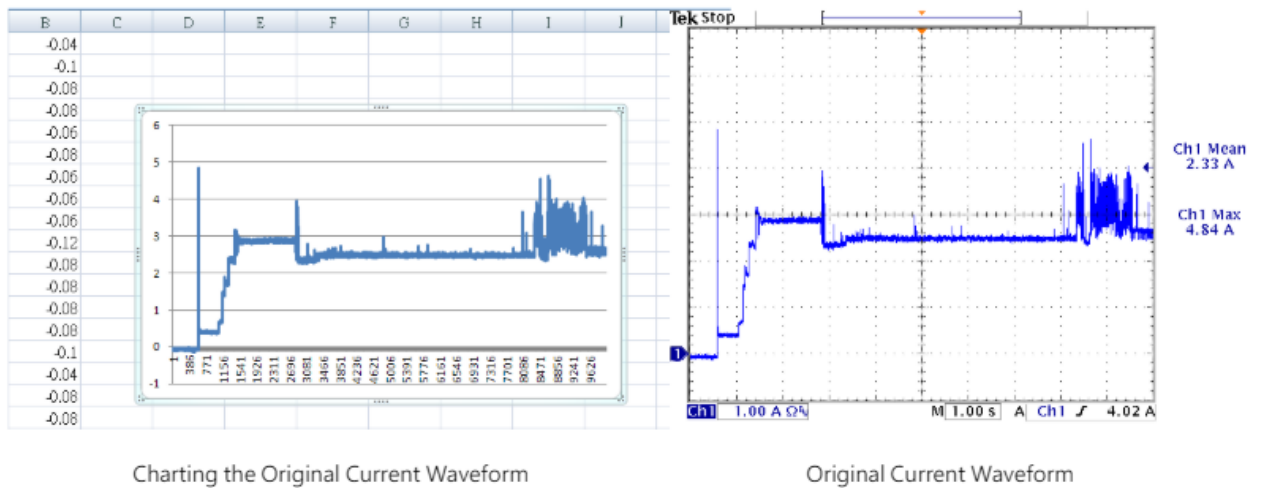

Figure 5. Opening the recorded waveform file in Excel and charting it for comparison
2. Open the recorded waveform file in Excel and plot it for comparison and confirmation, as shown in Figure 5.